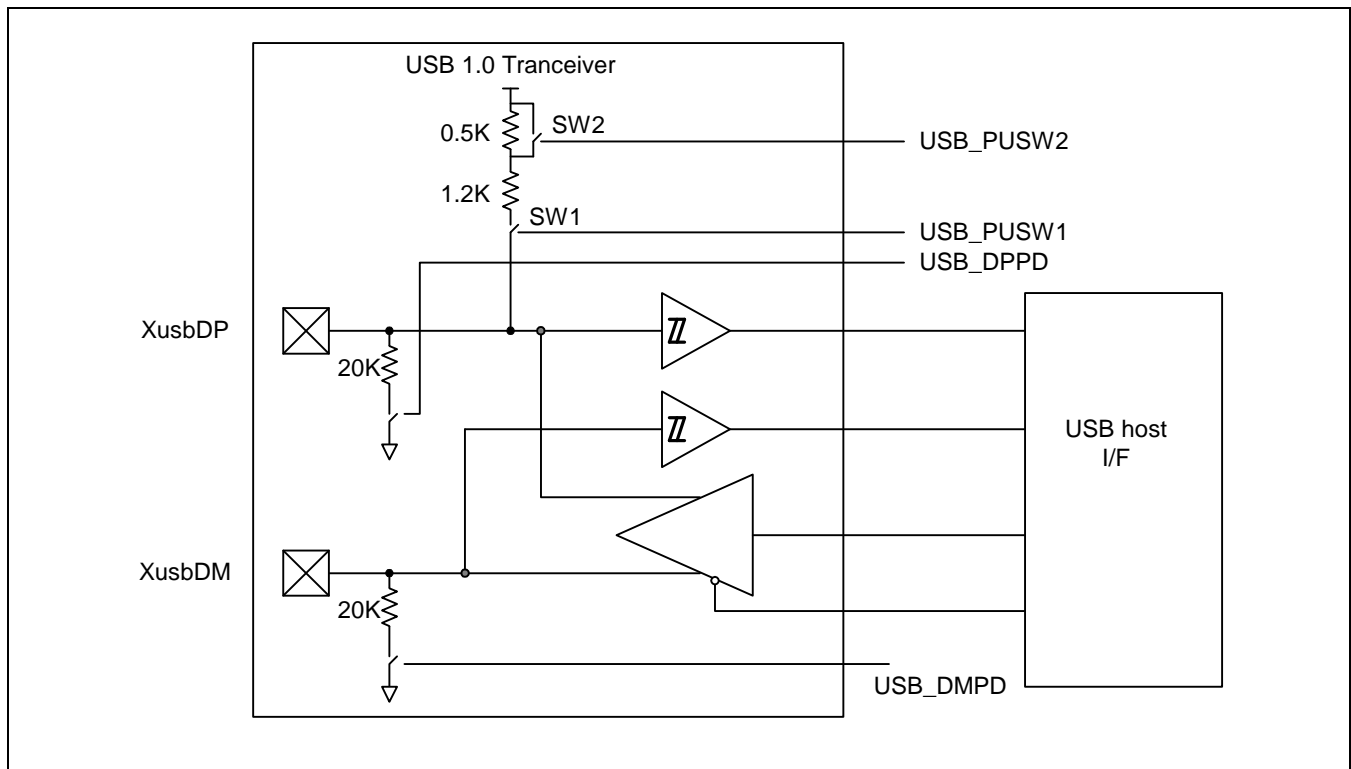

Figure 2.2-2 USB Transceiver Block Diagram
1. Pull-up resistance is 1.2kohm. Refer to figure 2.2-2
2. Pull-up resistance is 0.5kohm. Refer to figure 2.2-2.
3. Pull-down resistance is 20kohm. Refer to figure 2.2-2.